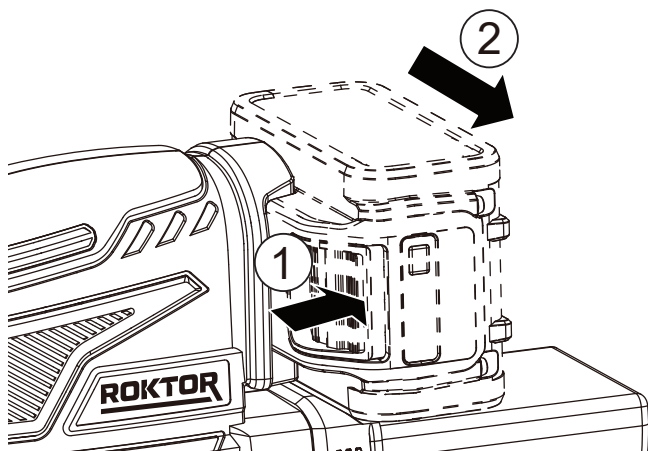

Figure 6
6. TO REMOVE OR INSTALL THE BATTERY PACK (NOT SUPPLIED) (SEE FIG. 6, 7)